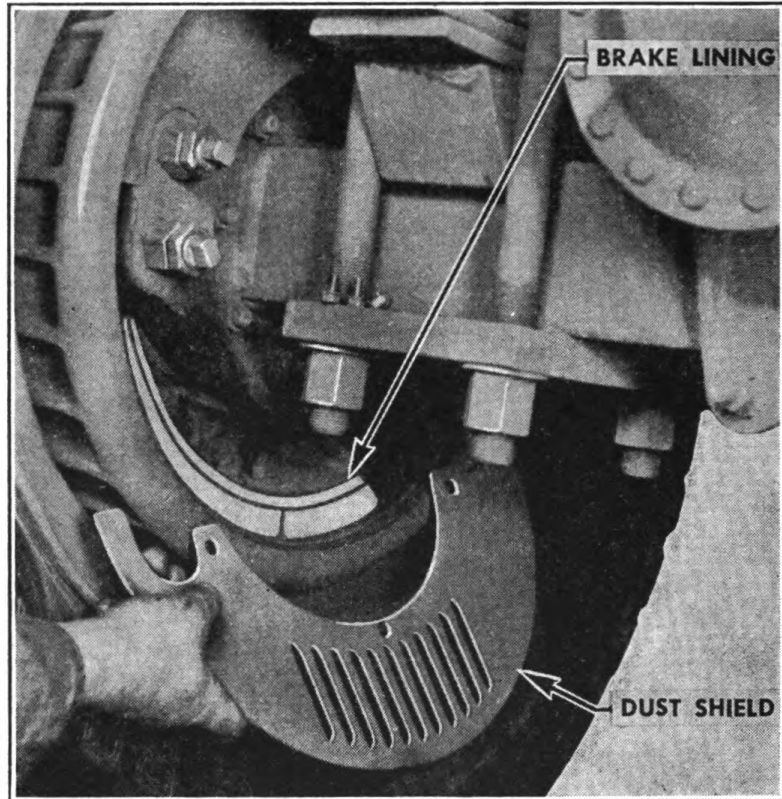
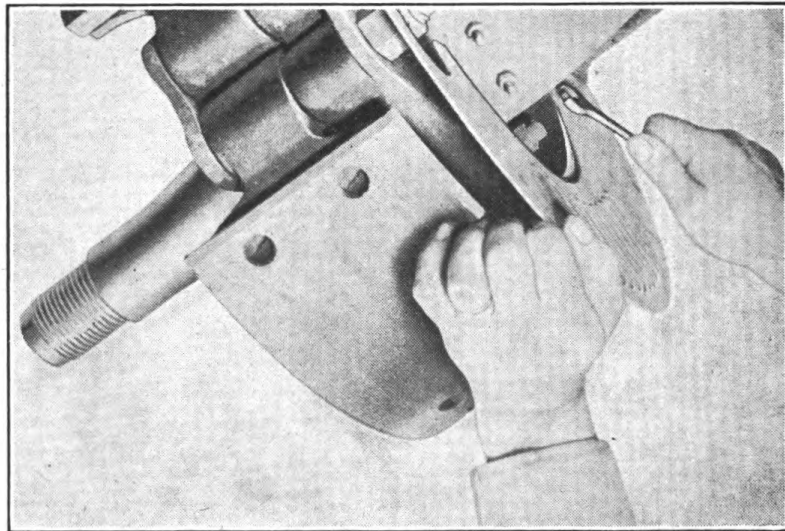

FIGURE 23. BRAKE LINING INSPECTION.
FIGURE 25. DUST SHIELD—REMOVAL
4. BRAKE LINING INSPECTION (Fig. 23).—*a.* Visual inspection of brake shoes and linings can be made without removing wheels from the axle. Simply remove the two dust shields, which are bolted to brake adaptor with six $\frac{1}{4}$ " cap screws (Fig. 25). This exposes the assembly to check for lining thickness and grease on the lining.
b. **NOTE:** It is not necessary to remove the brake shoes from the assembly to reline. It is necessary, however, to remove the dust shields (Fig. 25).